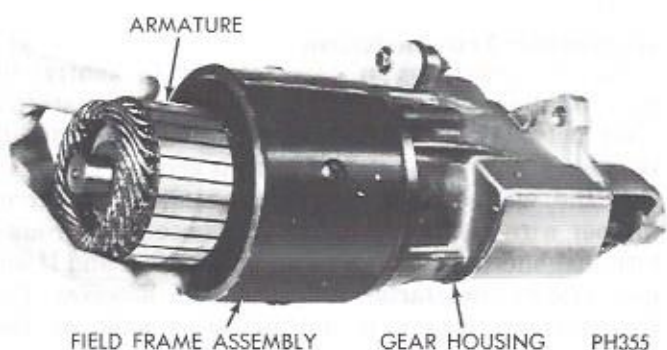

Fig. 5—Removing Armature
- (2) Carefully remove armature from gear housing and field frame assembly, by pulling outwards (Fig. 5).
- (3) Carefully pull field frame assembly from gear housing far enough to expose terminal screw.